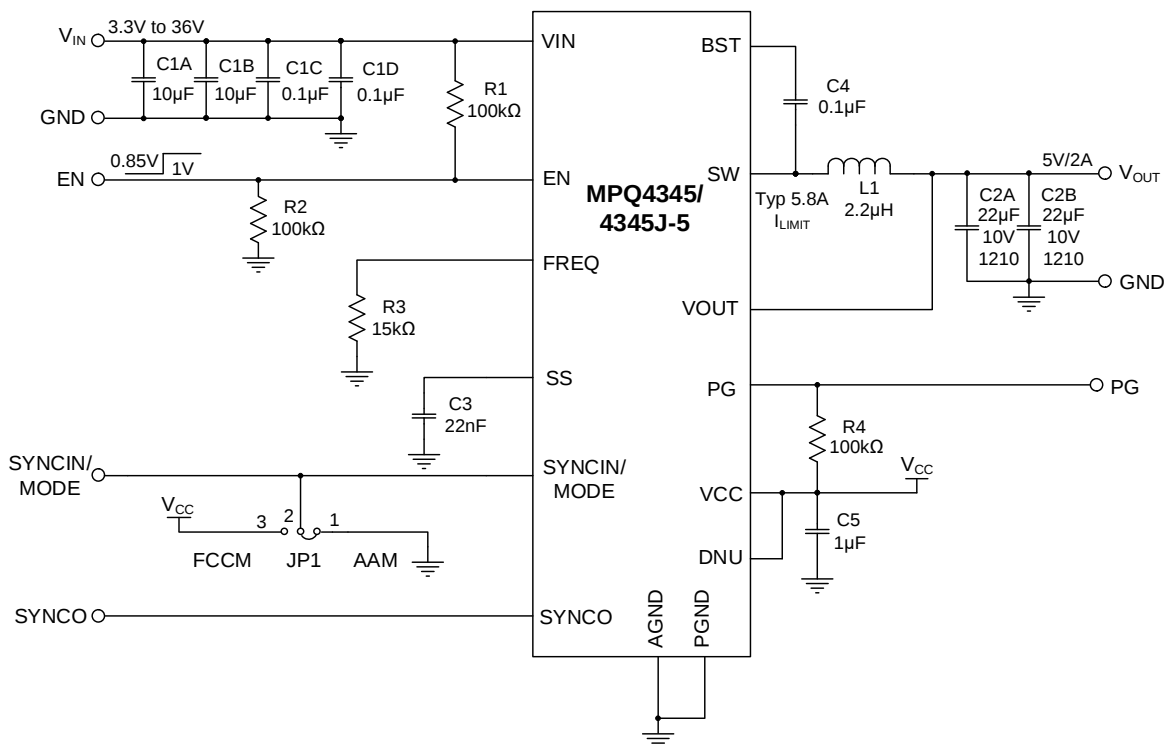

Figure 9: Typical Application Circuit ($V_{OUT} = 5V$, $f_{SW} = 2.2MHz$)
- 12) The recommended PCB layout is based on Figure 9 on page 41.